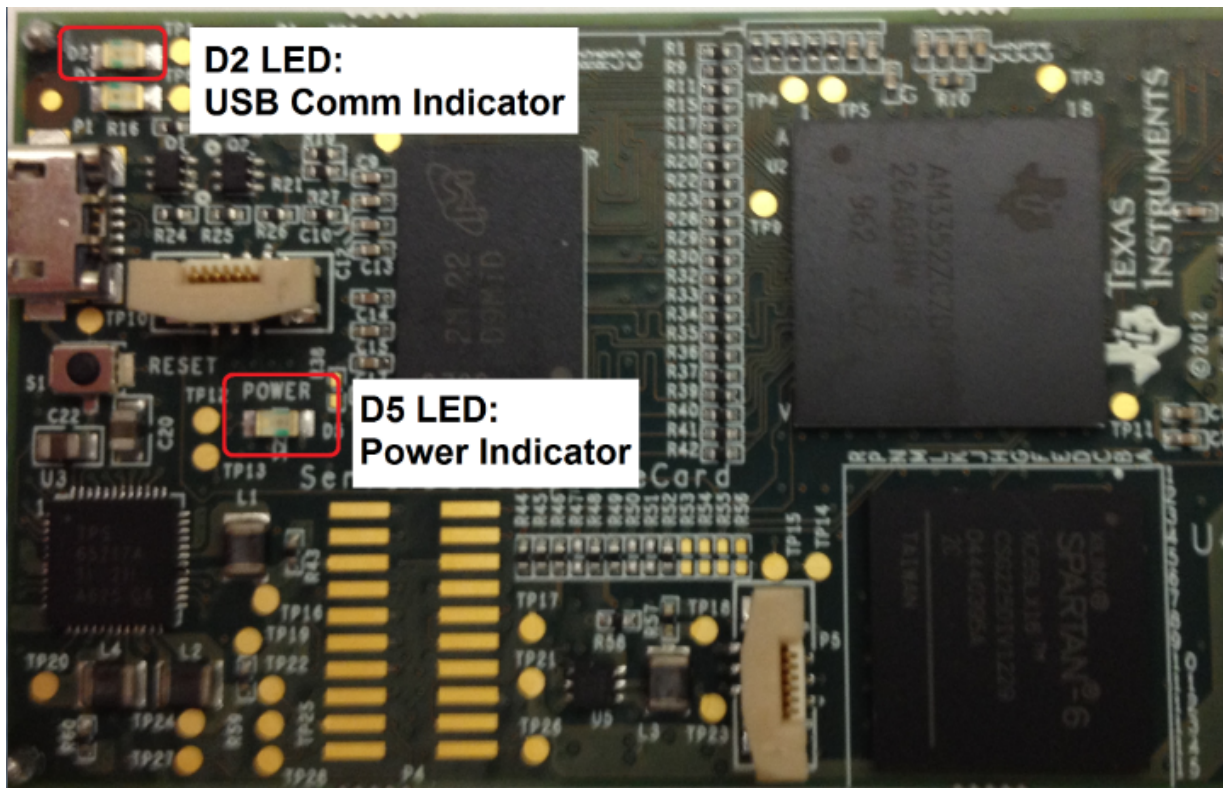

Figure 10. LED Indicators on a Simple Capture Card Board
- Step 5. Verify that LED D5 *Power Good* indicator is illuminated. Wait approximately ten seconds and verify that diode D2 blinks, indicating that USB communication with the host PC is functioning properly. Figure 10 shows the location of the LED indicators in the simple capture card controller board.